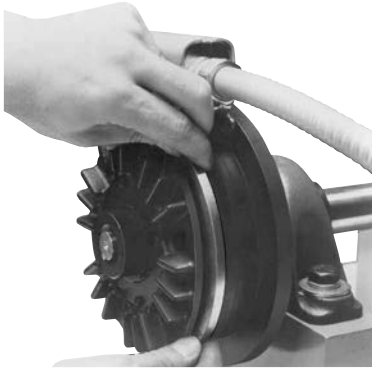

Figure 15
8. Insert the two new armature segments. (See Figure 15)